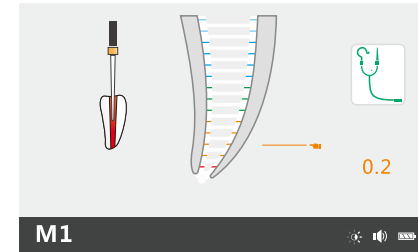

Fig.16 M1 interface
- The file movement in the root canal is shown on the left side of the screen work area (Fig. 16).